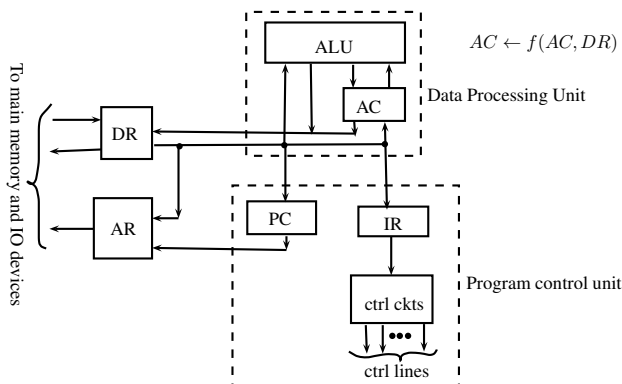

Figure 3: Basic building blocks of CPU.
The figure 3 explains the cpu architecture, comprising the ALU (arithmetic and logic unit) and program control unit (CU), along with some essential and most commonly used registers, like Address register and program counter register, data register, instruction register, and accumulator. The accumulator is source of the data (operand) and destination of result in all the arithmetic and logical operations. The program counter (PC) always holds the address of next instruction to be fetched from memory for execution. On fetching it, the instruction first of all land in the instruction register (IR) of the CPU. If an instruction operand
As the diagram in figure 3 indicates DR and AR of CPU have interface with the memory. The address of next instruction is maintained in the PC, but to be sent to the memory, it is loaded into the AR.